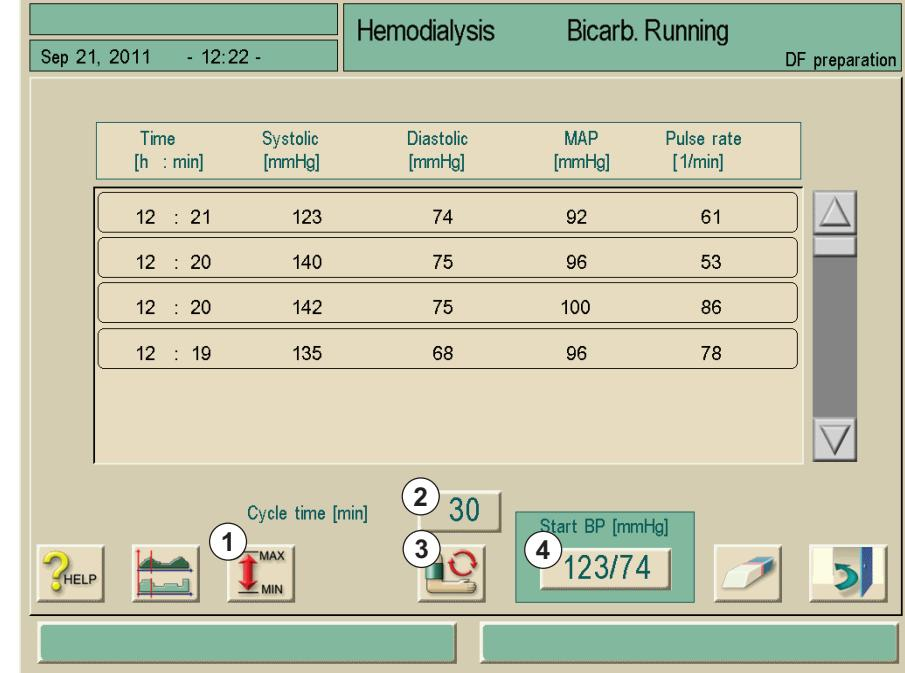
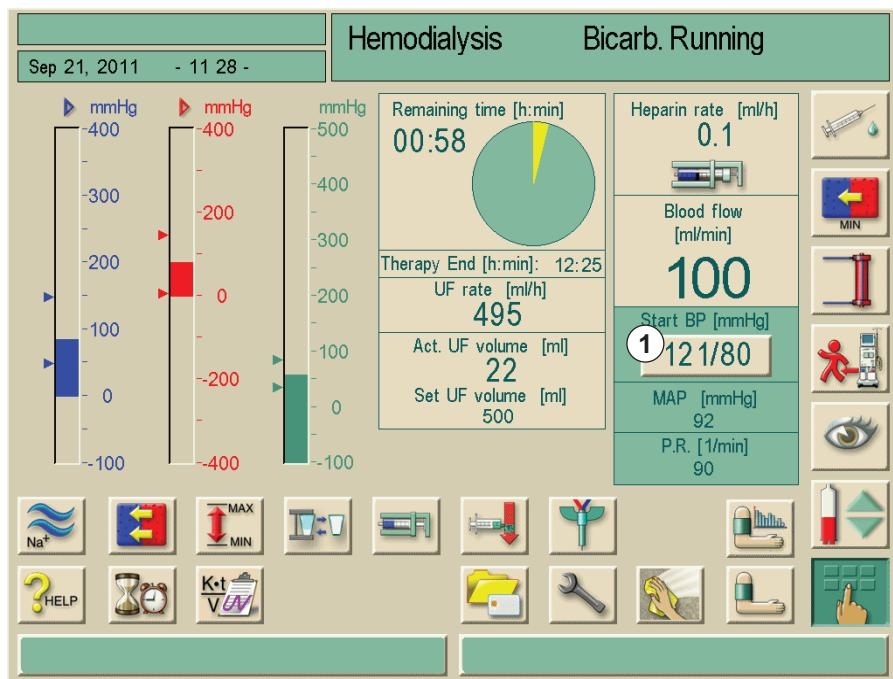

Fig. 11-6 "ABPM main view" screen
Fig. 11-8 "Therapy" screen
1. Touch field **1** on the "Therapy" screen (Fig. 11-8) and field **4** in the "ABPM main menu" window (Fig. 11-6 "ABPM main view" screen (179)).
1. Touch icon in ABPM main window (Fig. 11-6 "ABPM main view" screen (179)).